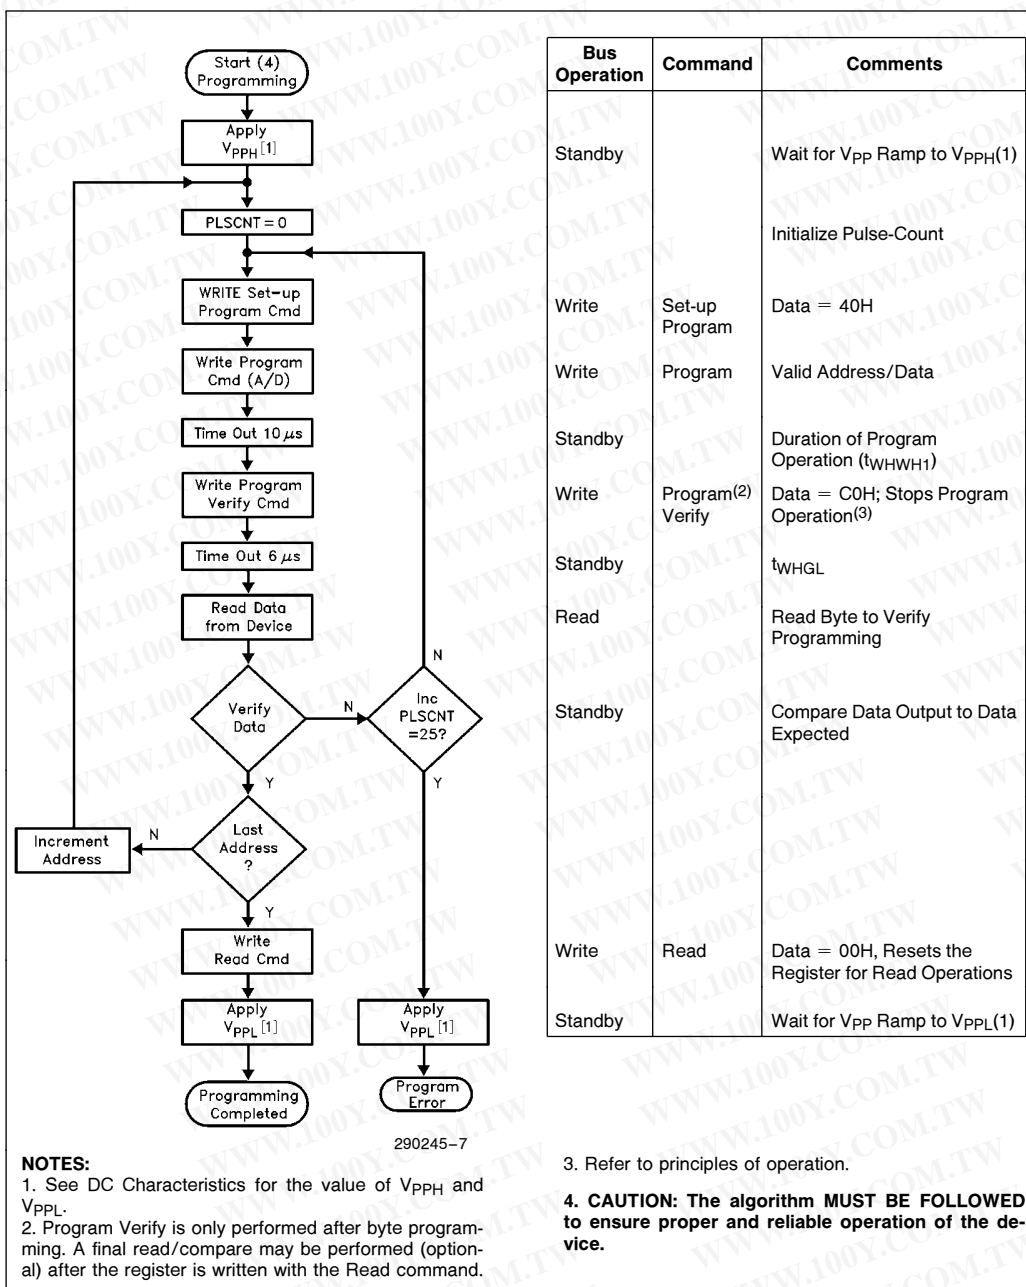

Figure 5. 28F020 Quick-Pulse Programming Algorithm
- Figure 5 illustrates the Quick-Pulse Programming Algorithm.
The 28F020 applies an internally-generated margin voltage to the byte. A microprocessor read cycle outputs the data. A successful comparison between the programmed byte and true data means that the byte is successfully programmed. Programming then proceeds to the next desired byte location. Figure 5, the 28F020 Quick-Pulse Programming algorithm, illustrates how commands are combined with bus operations to perform byte programming. Refer to AC Programming Characteristics and Waveforms for specific timing parameters.
The Quick-Pulse Programming algorithm uses programming operations of 10  $\mu$ s duration. Each operation is followed by a byte verification to determine when the addressed byte has been successfully programmed. The algorithm allows for up to 25 programming operations per byte, although most bytes verify on the first or second operation. The entire sequence of programming and byte verification is performed with VPP at high voltage. Figure 5 illustrates the Quick-Pulse Programming algorithm.